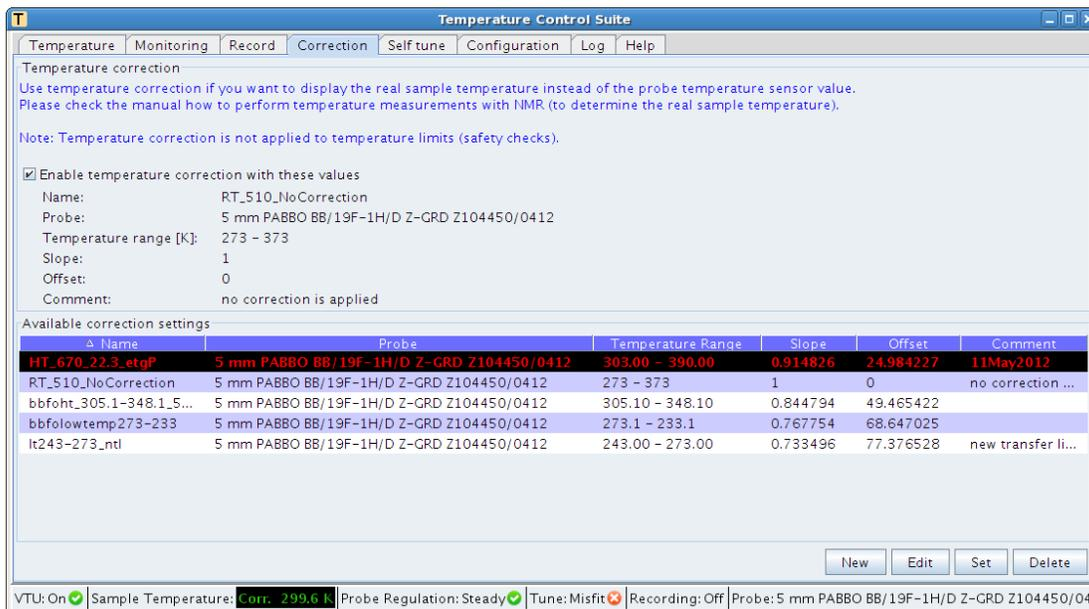

Figure 3: Select Appropriate Temperature Correction Parameter File
3. Click on Correction Tab in the Temperature Control Suite (Figure 3), select an appropriate correction parameter settings according to the desired target temperature. In this example, a file named “*bbfoht_305.1-348.1*” is selected. Click on **Set** button to assure the correction temperature calibration parameter are loaded for the high temperature run.
- After the high-temperature measurement has completed, in **Correction** Tab of the Temperature Control Suite (see Figure 3), first select the correction file of “*RT_510_NoCorrection*” and then click on **Set** to load the correction parameters.